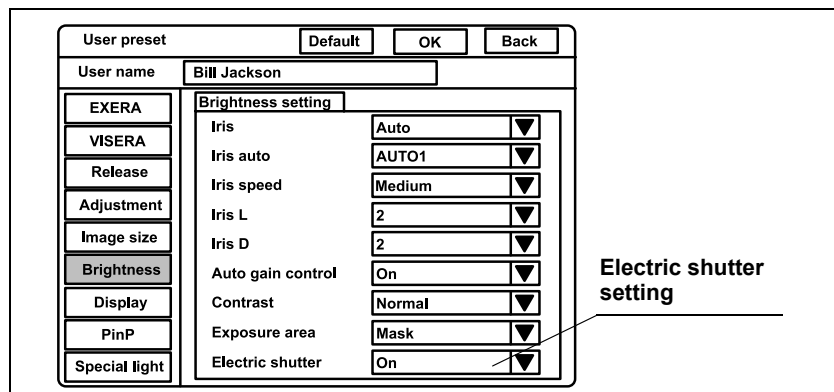

Figure 9.30
1. Click “ ▼ ” of “Electric shutter” (see Figure 9.30). The setting values ON and OFF appear in the pull-down menu.